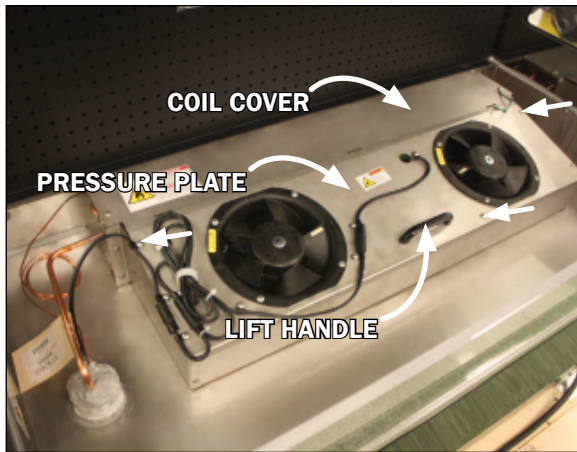

Fig. 19 Pressure plate, coil cover, screws and lift handle
3. To access the underside of the fans first remove the screws on the top ends and front sill of the pressure plate cover (Fig. 19). Lift the pressure plate by use of the provided lift handles (Fig. 19). There are hinges shared between the pressure plate and coil covers. **Note: It is recommended that more than one person lift the pressure plate.** The topside of pressure plate will rest against the topside of the coil cover, exposing the underside of the pressure plate and fans (Fig. 19).
2. Remove the top two screws at both ends of the coil cover (Fig. 19), as well as the screws from the top ends and front sill of the pressure plate cover (Fig. 19). **Be sure to save the removed screws for reassembly.**